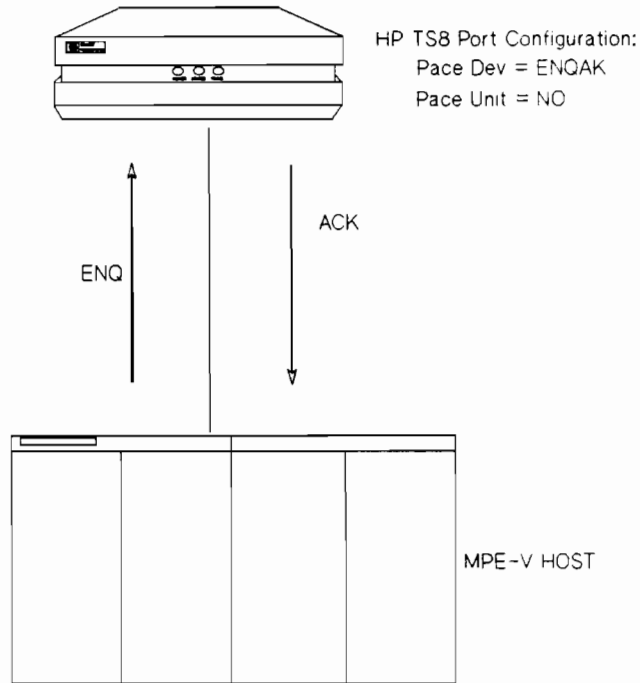

Figure 7-5: Enq-Ack Flow Control
- ENQAK the flow-pacing end asserts flow control by sending an "enquiry" character (ENQ) at the end of each line and waiting for the device to respond with an "acknowledge" character (ACK), meaning that it is ready to accept the next line, and a fixed length block of characters. (Note that for a given port PACE-DEV and PACE-UNIT will never both be configured to ENQAK). See STOP-CNT field for details of ENQ-ACK buffer handling. ENQAK is useful for communication with an HP3000/MPE(V) and an HP1000 host. If a host uses ENQ-ACK handshaking, its HP TS8 port must be configured as PACE-DEV:ENQAK, and PACE-UNIT:NO (see Fig 7-5).